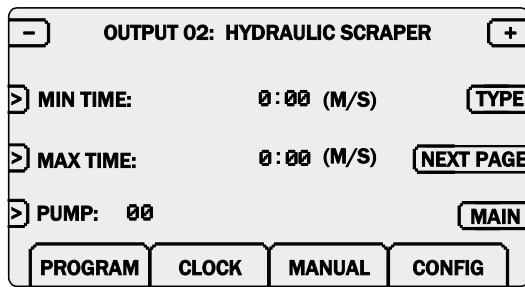

Figure 4: Outputs programming screen 1
- 5 Press the RETURN key to return to the outputs programming screen. The MIN and MAX (or RUN) times will be set at their default values for the chosen type of output. Figures 4 and 5 illustrate the two programming screens which are accessed by pressing the NEXT PAGE / PREV PAGE keys. Below is the explanation for each setting of an output. Some settings are only available for certain types of outputs (pumps do not have any settings). Table 1 (page 6) contains the default settings for each type of output.